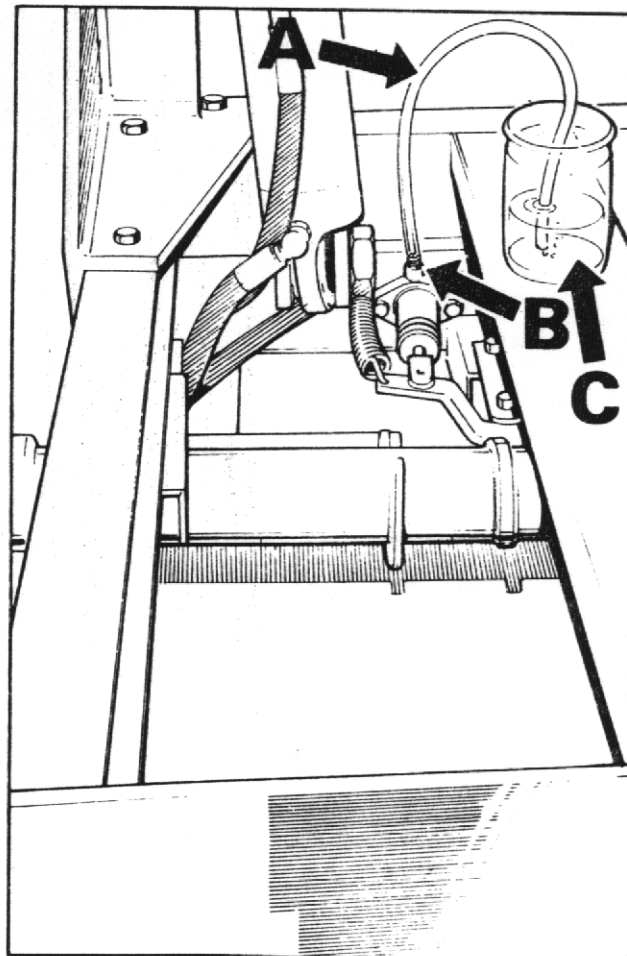

FIG. 5
3. Attach bleeder tube (A) (See Fig. 5) to the bleed screw (B) on the front slave cylinder, immerse the other end of the tube in a small quantity of brake fluid contained in a glass jar (C). Slacken bleed screw and operate brake pedal up and down to its full stroke until fluid pumped into the jar contains no air bubbles. Hold pedal down and close bleed screw. Remove bleeder tube and release pedal.